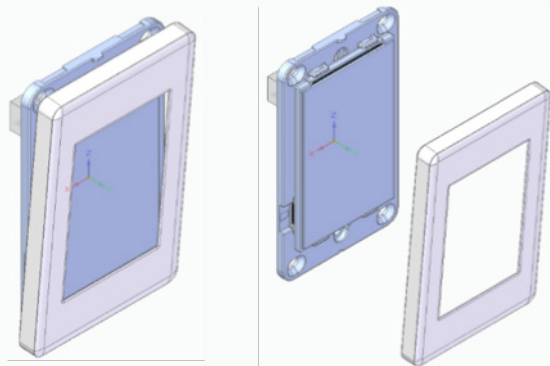

Figure 1
2. Start the installation by removing the Cover Plate from the station. See figure 1